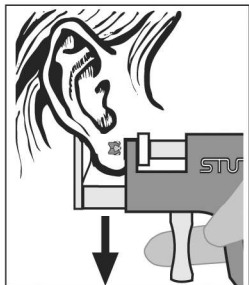

Figure 12
3. Release the trigger and carefully pull the instrument straight down from the ear (Figure 12).